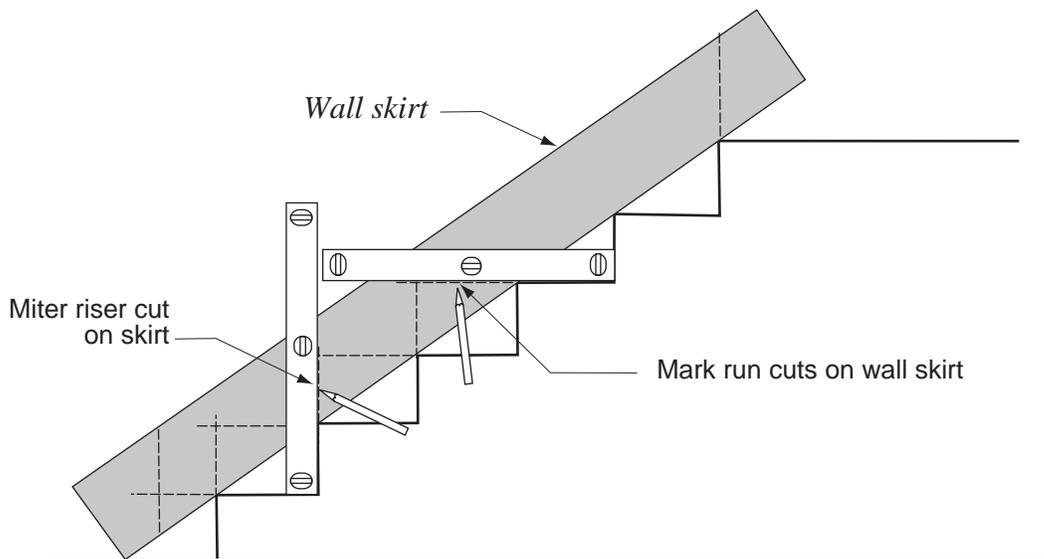

Fig. 2-7 Measuring and cutting the wall skirt.
2. Using a two-foot level, scribe a line plumb with each riser. Please note Fig. 2-7 here.